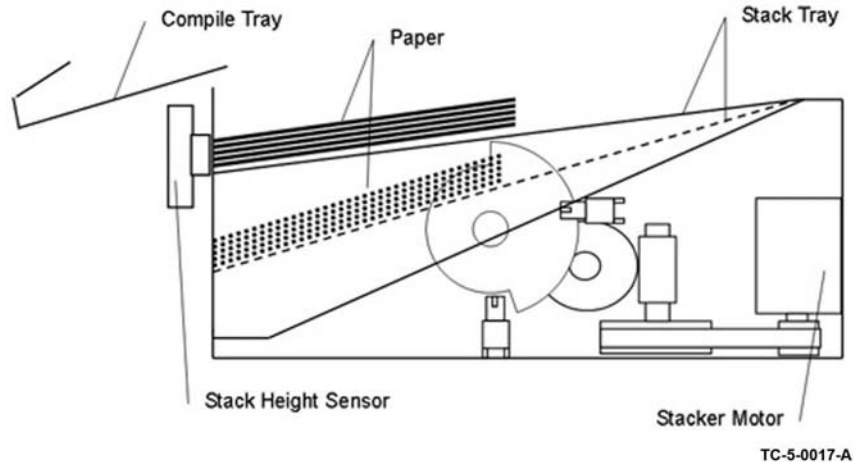

Figure 17 Stack tray height adjustment
The stack height sensor detects paper at a specified time after they are output from the compile tray. When paper is detected, the stacker motor rotates forward (CW) to drive the stack tray down a specified distance. If the stack height sensor does not detect paper, the stack tray stays at the height it is at and waits for a next set to be output. Refer to Figure 17.